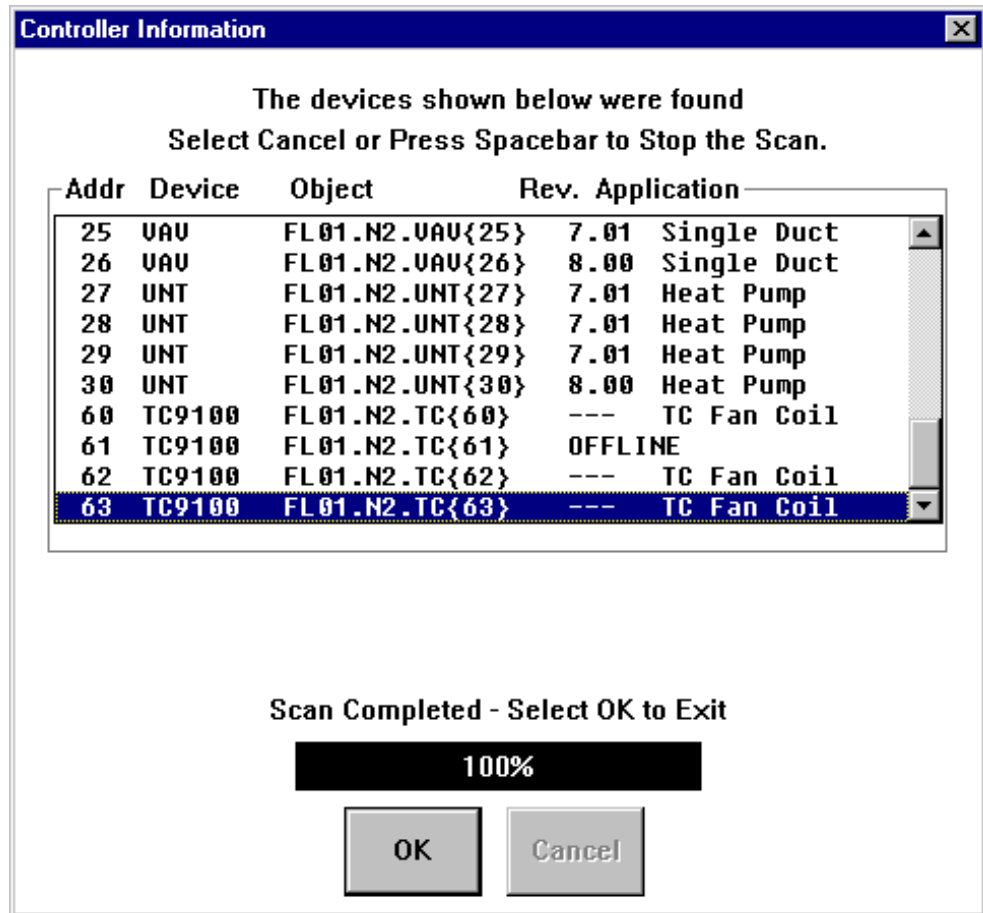

Figure 17-15: Controller Information Dialog Box
5. Click OK or press Enter. The dialog box in Figure 17-15 appears.